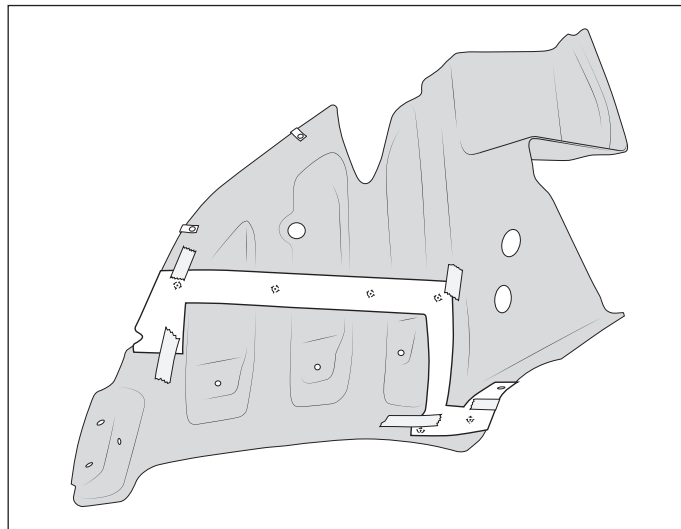

Figure 11
- B. Using template AEV30349 and AEV30346, trim the closeout panels (fig. 11).